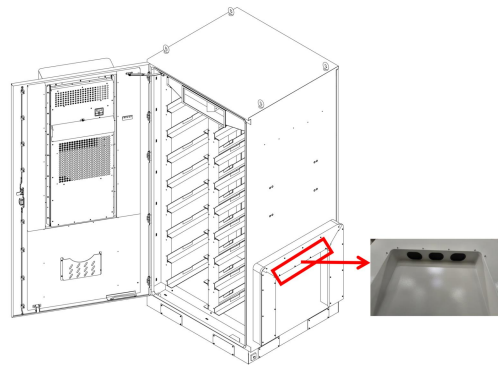

Figure 5-17 Cable Outlet Holes
- PV cables, grid or load cables are connected through external inlet holes. After cable installation, thoroughly seal all gaps at external inlet holes with fireproof putty to ensure no voids or looseness. After sealing, verify that the fireproof putty is fully filled, level, free of cracks or peeling, as shown in Figure 5-17.